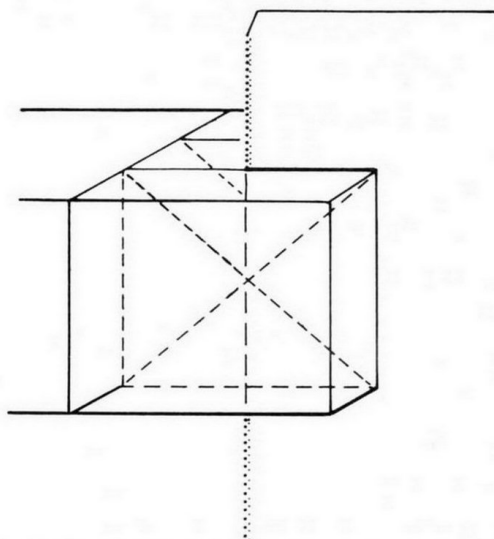

Fig. 3. Saw through the wood from the end until you reach the shoulder.
**Step 3.** Now return the rail to its original position. Facing the end, with the saw perpendicular to the end surface, saw through the kerf until the rip cut reaches completely to the tenon shoulder. Be careful not to oversaw the shoulder (fig. 3). Repeat for *b* and *c*.